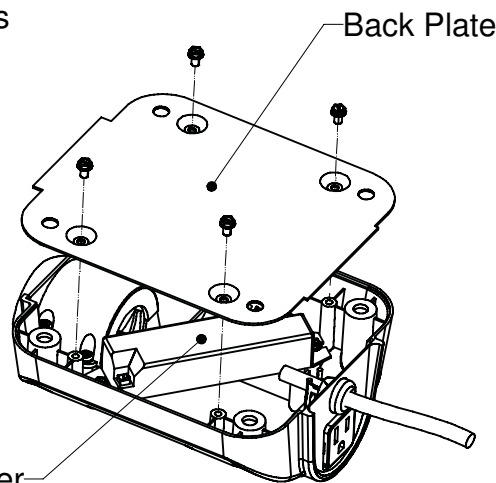

Fig. 4
- 2) Remove "Back Plate" by removing 4 screws as shown. (See Fig. 4)